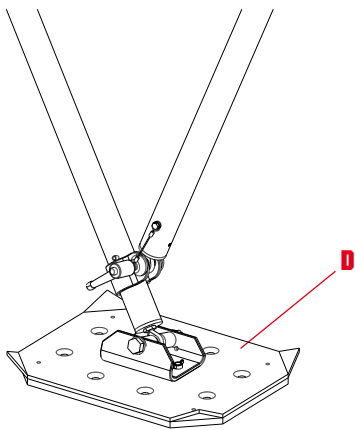

fig. 4A
- screw and tighten the shackles (M).
- c) Choose the side of the feet (D) most suitable for the available surface and attach them using the appropriate screws:
- rubber side down for support on smooth and hard surfaces (fig. 4A),